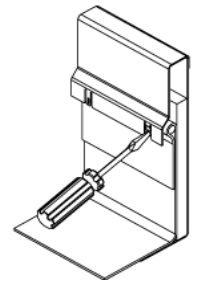

Figure 1
2. The roof hatch curb flange comes with two (2) types of mounting holes to accommodate multiple fastening methods practiced and accepted at a local level.
4. Install roofing material up to and surrounding the roof curb, and under the counterflashing at the top of the curb. Use the EZ tab feature, *figure 1*, to provide additional mechanical support to hold and secure roofing membrane. Lap and seal all joints in roofing material to provide a weather-tight seal.